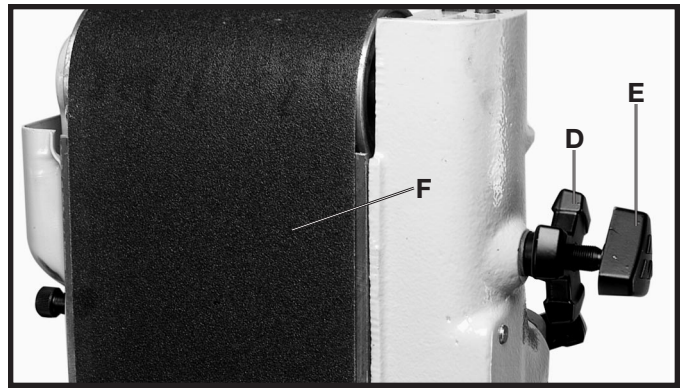

Fig. 14
3. Loosen tracking lock knob (D) Fig. 14, and while rotating the belt (F) by hand, as shown, tighten or loosen tracking knob (E) until the belt is running true on the pulleys.
4. Then jog the machine on and off to check further if the belt is tracking properly. If the belt is leading to one side or the other, very gently turn the tracking knob (E) Fig. 14, clockwise to move the belt toward the adjusting screw and counterclockwise to move the belt away from the adjusting screw while jogging the machine on and off.
5. A final adjustment can be made with the motor running. **THIS ADJUSTMENT IS USUALLY VERY SLIGHT.** After the belt is tracking properly, tighten the lock knob (D) Fig. 14, being careful the adjusting screw (E) does not turn.